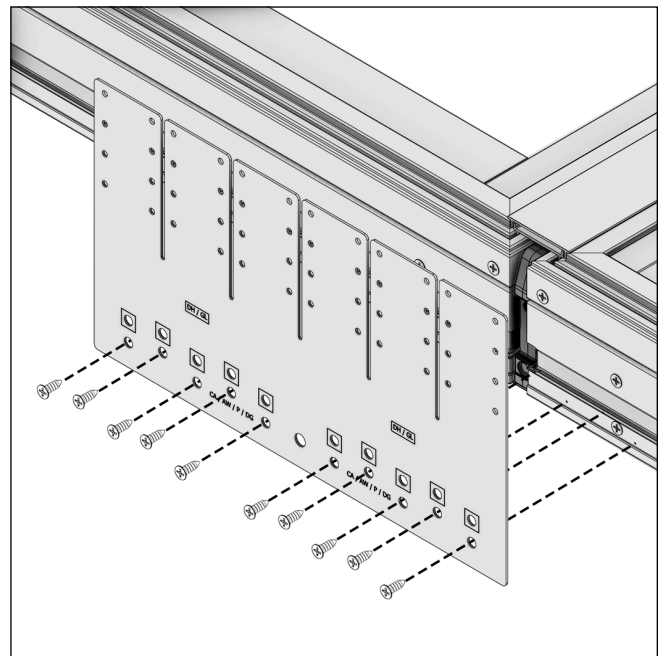

Figure 48
4. Fasten full gusset plates with the supplied #7 x 1/2" flathead screws. Do not over-tighten. See Figure 48.